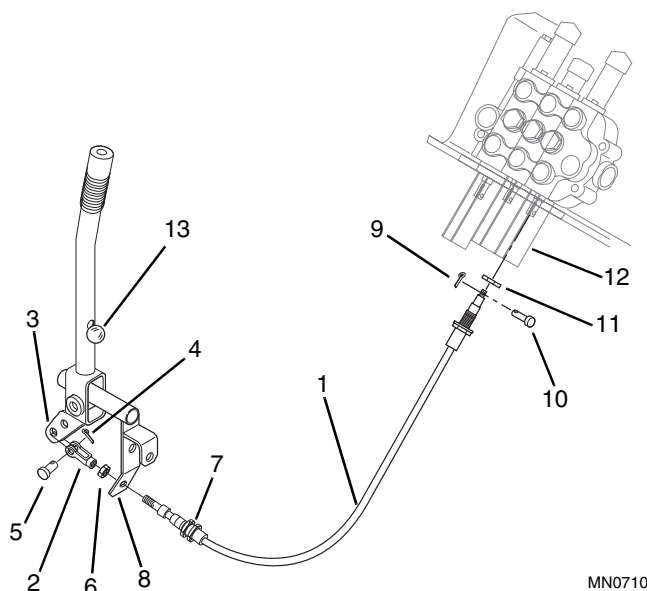

Figure 7-43 Auxiliary Hydraulics Cable
2. To remove the auxiliary hydraulic control cable (Fig. 7-43, 1) from the vehicle, disconnect the cable yoke end (2) from right control lever (3) by removing the cotter pin (4) and clevis pin (5) from the yoke and control lever.
3. Disassemble yoke (Fig. 7-43, 2) and hex nut (6) from the end of the cable.
4. Remove outer hex jam nut (Fig. 7-43, 7) from lever end of cable, and pull the cable out of the hole in 4-way pivot (8).
8. Disconnect the opposite end of the control cable by removing the cotter pin (Fig. 7-43, 9) and clevis pin (10) from the cable end and valve spool.
9. Loosen and remove nut (Fig. 7-43, 11) and remove the cable from control valve strap adapter (12).
10. Remove the cable (Fig. 7-43, 1) from the vehicle.